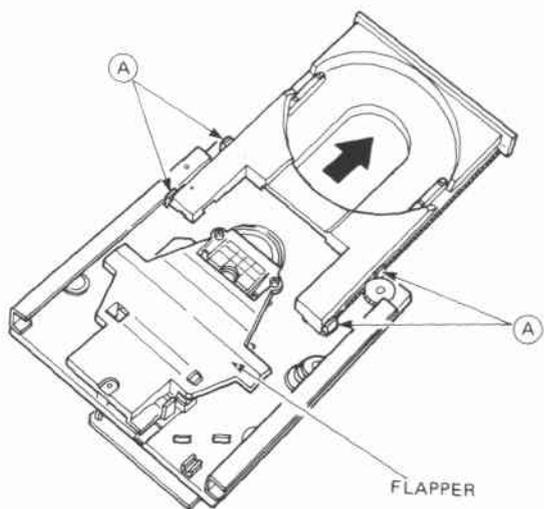

Fig. 13
Then pull off Disc Tray Ass'y by pressing the hooks (A) in Fig. 13.